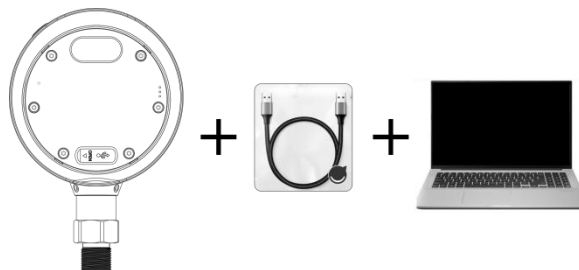

Figure 21 Connect to PC through the adapter
(2) Connect to PC through adapter and USB male-to-male cable, shown in Figure 21;